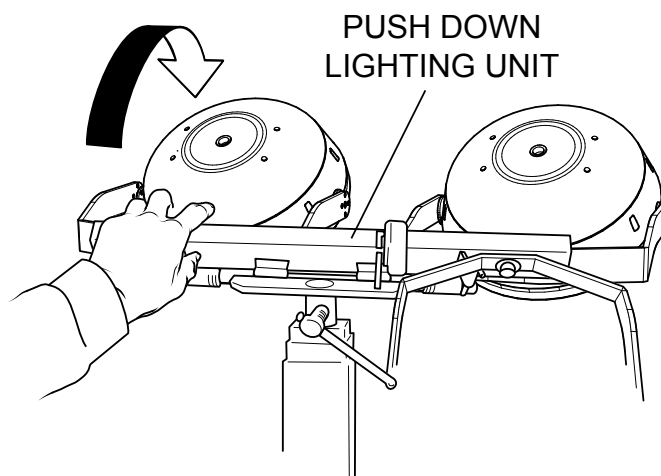

Figure 18. Pushing Down Light Stand
4. Push down the lamp stand (Figure 18). Some force is required when pushing down because of the installed springs.